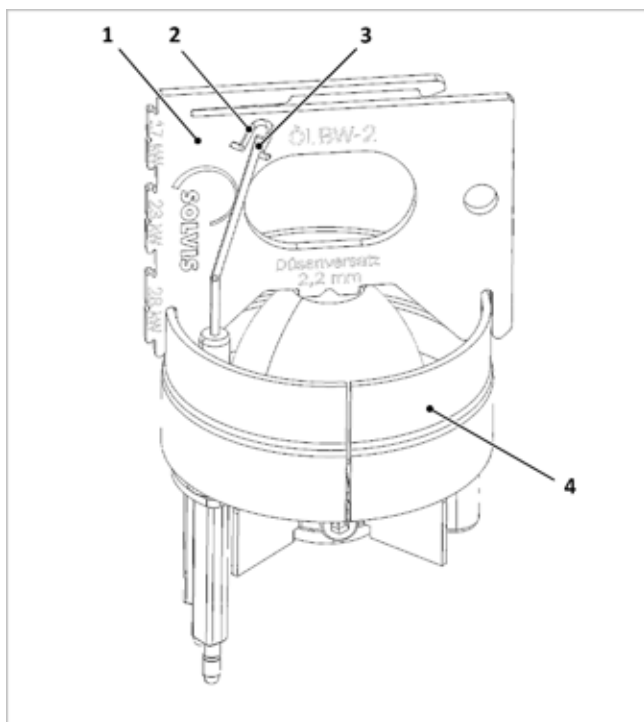

Fig. 149: Check the ignition electrodes
1. Check the position of the electrodes (3) as shown in → fig. 149 and correct by carefully bending them, if necessary.
2. Check the minimum length. The lower end of the control window (2) of the setting gauge specifies the minimum length of the ignition electrodes. If the electrodes are only slightly longer, they should be replaced.